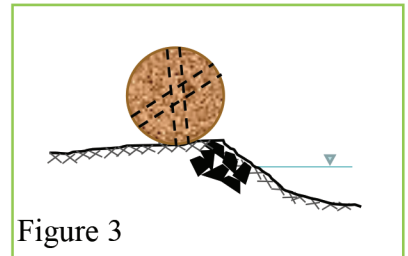

Figure 3
2. Pull the coir fiber plugs from both directions of the BioD-SuperRoll™ exposing the invisible holes (Figures 3 & 4).